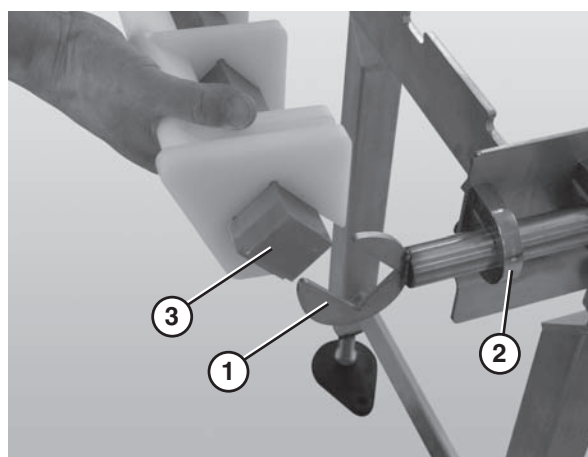

Figure 17
1. Slide the nose bar idler shaft hands (**Figure 17, item 1**) into the take up blocks (**Figure 17, item 2**).
2. Attach the nose bar transfer post (**Figure 17, item 3**) to the nose bar idler shaft hands.